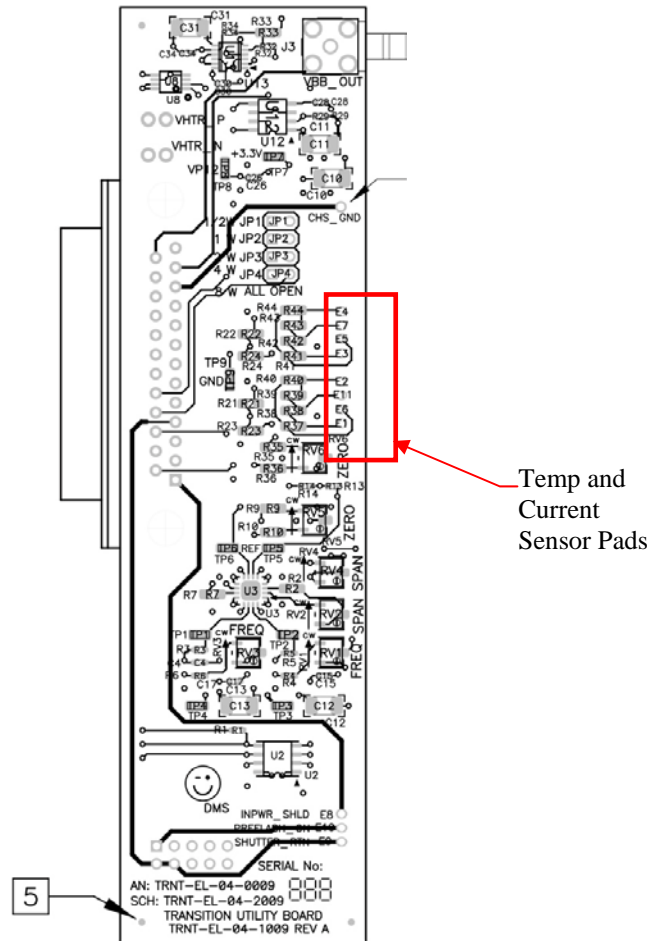

Figure 3. Utility Board Temp Sensor Pads
Step 2.8 Insert the Resistive Load leads of the Test Fixture to CH1 Temp Sensor pads “1V+” and “1V-“ of the Trans Utility Board. Refer to Figure 3 for locations. Reapply 12V to the Test Fixture.
- Step 3.2.4 Insert the Resistive Load leads to CH2 Temp Sensor pads “2V+” and “2V-“ of the Trans Utility Board. Refer to Figure 3 for locations.
- Step 3.3.2 Insert a 100Kohm resistor across the “1I+” and “I-“ pads of the Trans Utility Board. Refer to Figure 3 for locations.
- Step 3.3.11 Insert a 100Kohm resistor into the “2I+” and “2I-“ pads of the Trans Utility Board. Refer to Figure 3 for locations.